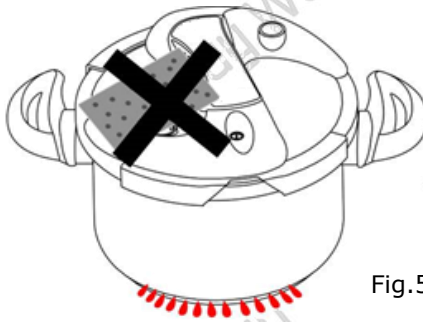

Fig.5
30. It is prohibited to put anything on the pressure control valve (Fig.5).